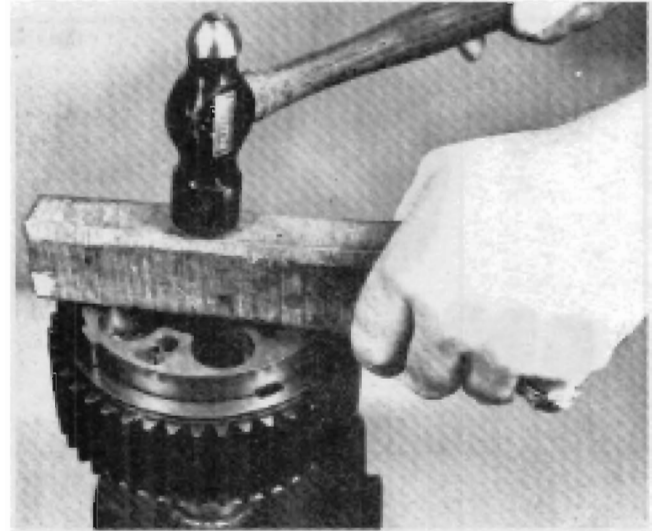

FIGURE 9
8. With the roll pins up, align the remaining body with the pinions and using a plastic hammer or hard wood block carefully tap the body into the differential ring gear until it seats against the other body. Figure 9.